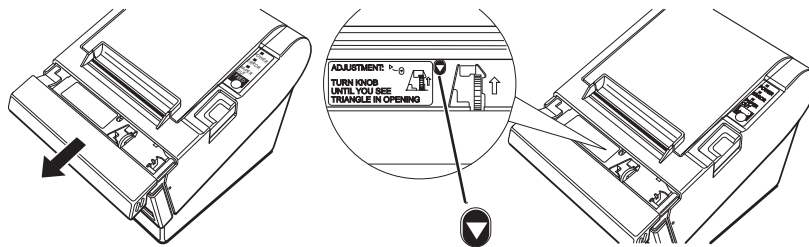

Figure 6.6 Removing an Autocutter Jam
- 1 If paper is caught in the cutter and you cannot open the printer cover, open the cutter cover as shown on the left in Figure 6.6.
- 2 Turn the knob until you see a triangle in the opening, as shown on the right in Figure 6.6. This returns the cutter blade to the normal position. There is a label near the cutter to assist you.